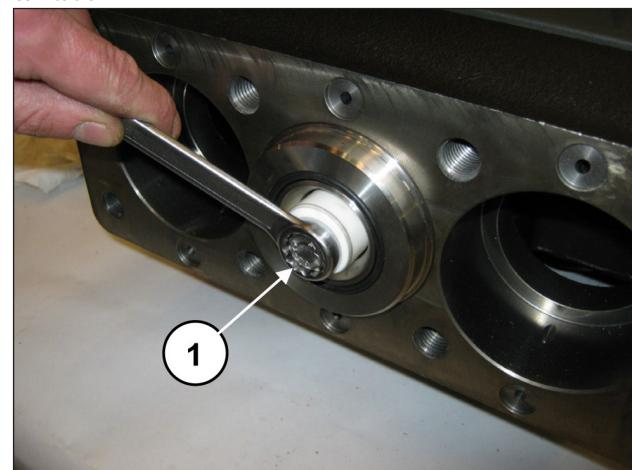

Fig. 168
Disassemble the pistons by unscrewing the fixing screws (pos. ①, Fig. 168).